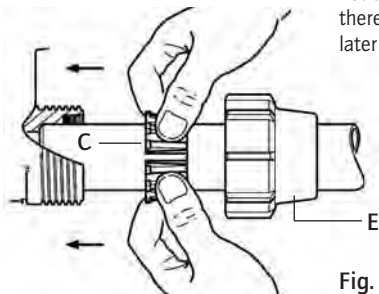

Fig. 2
- Bevel the end of the pipe and slide on nut (Fig. 2-E) and then ferrule (Fig. 2-C).
- Slide pipes into water inlet and outlet (Fig. 2) as far as they will go.
- Push one ferrule (Fig. 2-C) against the inlet and the other against the outlet.
- Tighten the nuts (Fig. 2-E).
- Then place the ferrules over the pipe using both thumbs in the slot to widen the ferrule (Fig. 2-C) and avoid scraping off the adhesive, then tighten the nut.